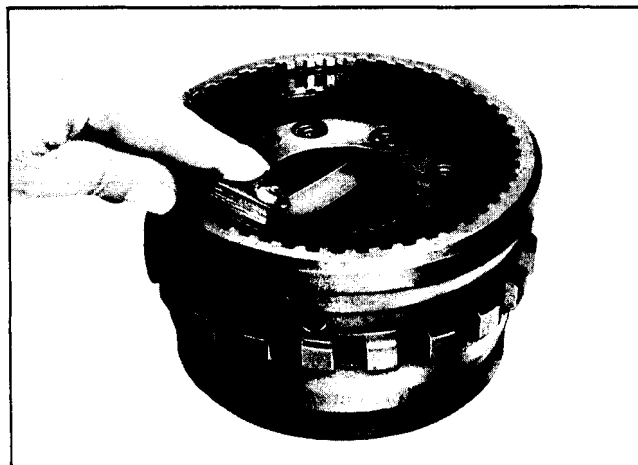

Fig. 7E-146 Checking Output Carrier Pinion End Play
11. Check output carrier pinion end play. Should be .009"-.024" (Fig. 7E-146).